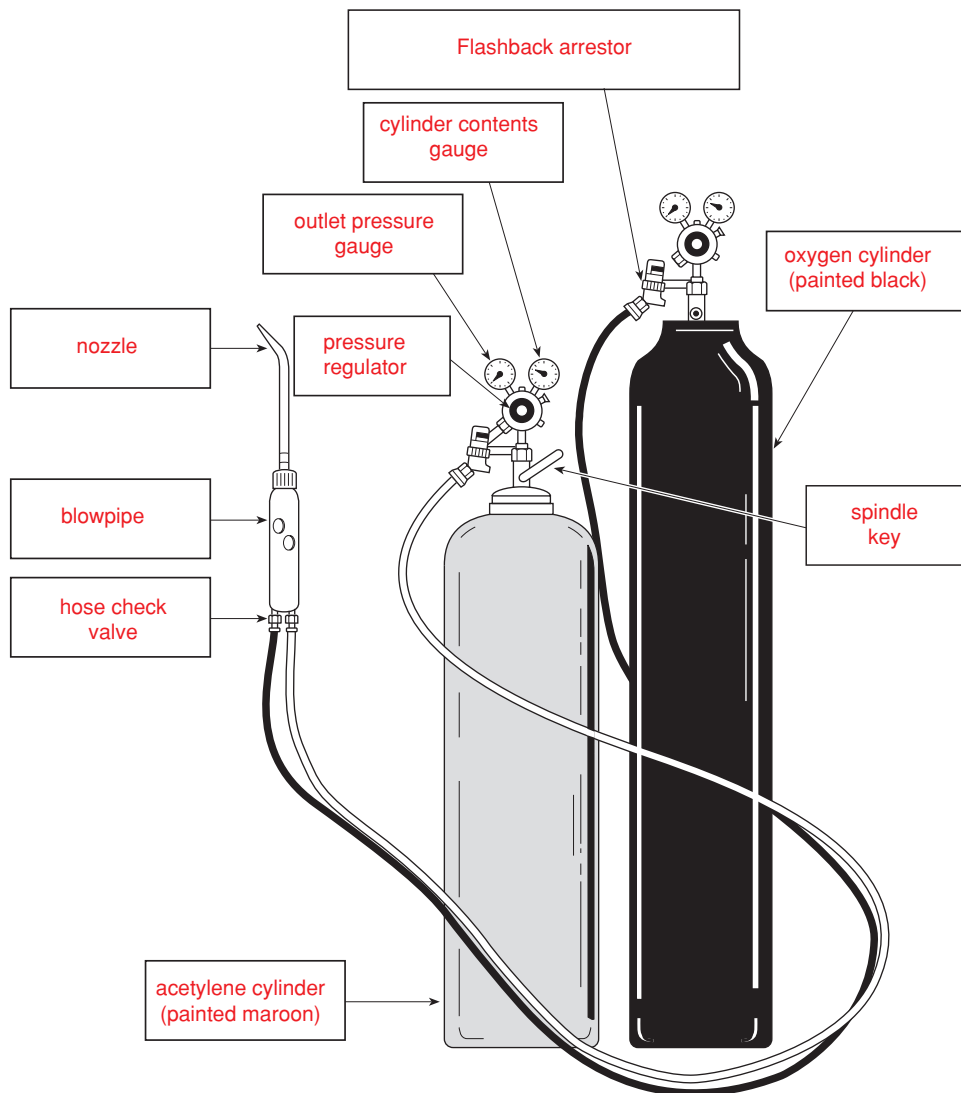

Figure 8
(22) Figure 8 illustrates oxyacetylene welding equipment. In the spaces provided round the figure, name each of the components indicated. (Page 67.)